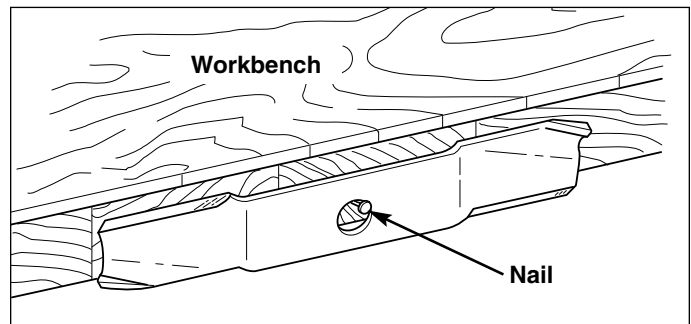

Figure 28. Balancing The Blade
5. Balance the blade as shown in Figure 28. Center the blade’s hole on a nail lubricated with a drop of oil. A balanced blade will remain level.